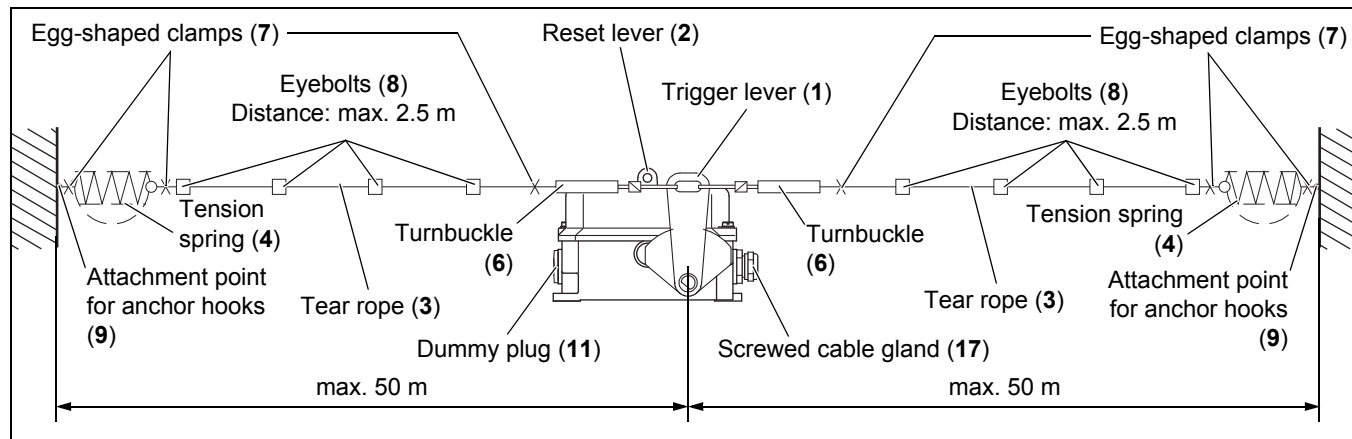
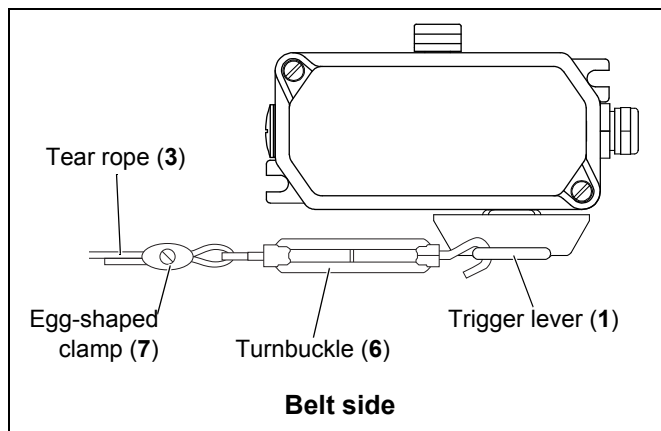

Fig. 5-7: Mounting on the conveyor structure
Fig. 5-8: Attaching the turnbuckle
Centring the trigger lever (1) makes it resistant to temperature changes. The tension springs (4) compensate for any extension or contraction of the tear rope (3) caused by temperature changes (see fig. 5-7).
9. Release the tension of one turnbuckle (6) completely (see fig. 5-8).
10. Put one end of the tear rope (3) through the eye of the turnbuckle (6) and hook the turnbuckle (6) into the trigger lever (1).
11. Tighten the tear rope (3) so that the tension spring (4) is extended by 35 mm (see fig. 5-7).
12. Attach this end of the tear rope (3) using an egg-shaped clamp (7).
13. Remove the turnbuckle (6) again. Unlock the pull-rope emergency stop switch by using the reset lever (2) (see fig. 5-7).
14. Repeat steps 5 - 12 for installing the tear rope (3) on the other side of the pull-rope emergency stop switch.
15. Now hook both turnbuckles (6) into place and operate the actuating lever (1) of the pull-rope emergency stop switch.
16. Place the trigger lever (1) in the middle using the turnbuckles (6) and adjust the length of the tightened tension springs (4) to 210 mm (see fig. 5-7).